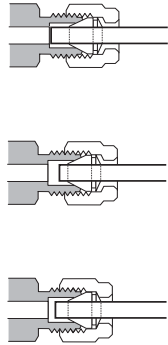

Figure 57. Completed fitting
- 10 Both correctly- and incorrectly-swaged connections are shown in **Figure 57**. Note that the end of the tubing in a correctly-swaged fitting is not crushed and does not interfere with the action of the ferrules.